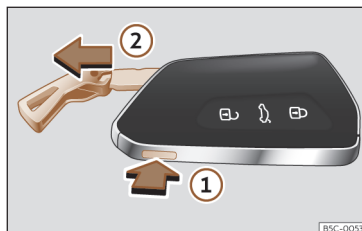

Fig. 65 Vehicle key: remove the key shaft.
- Press the >>> **Fig. 65** ① button to release the ring from the key fob and remove the key blade ②. Pressing lightly on the ring leaves it fixed as a key fob.
- Press the >>> **Fig. 65** ① button to unlock. Press and hold button ① and at the same time pull on the ring in the direction of arrow >>> **Fig. 65** ② to completely remove the key shaft.